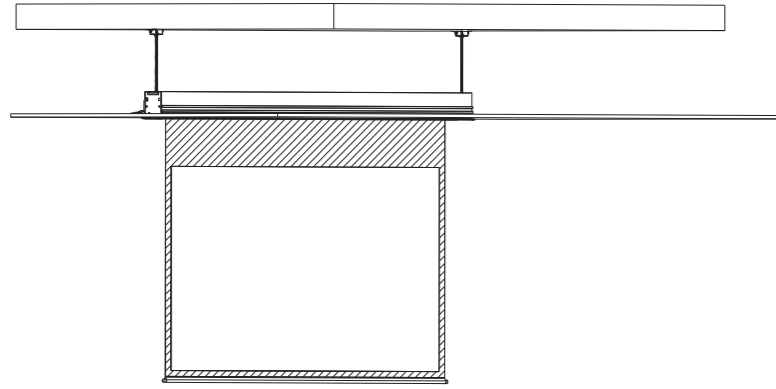

Figure25
- 5) Unlock the security lock of baffle (figure 24、figure 25), insert the plug of security to a hole of end cap (figure 26), if the baffle can not move up that please align baffle with ceiling board.
- 5) Unlock the security lock of baffle (figure 24, figure 25), insert the plug of security to a hole of end cap (figure 26), if the baffle can not move up that please align baffle with ceiling board.
11. Installation Completed (figure 25).